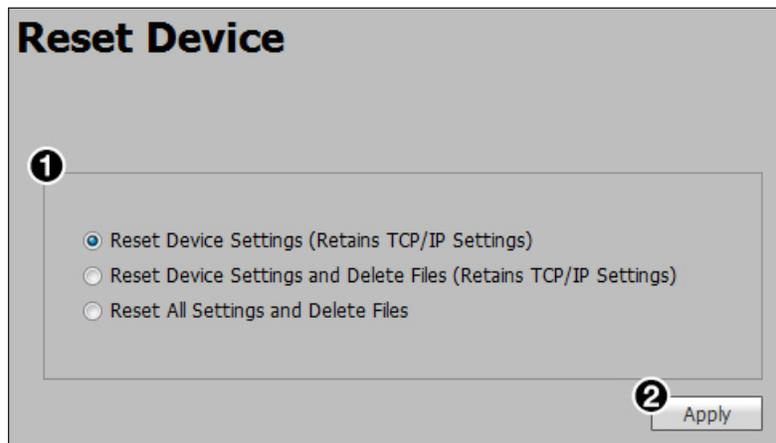

Figure 90. Reset Device Page
1. In the **Administrator Password** field (see figure 90, **1**, on the previous page) enter the desired administrator password.